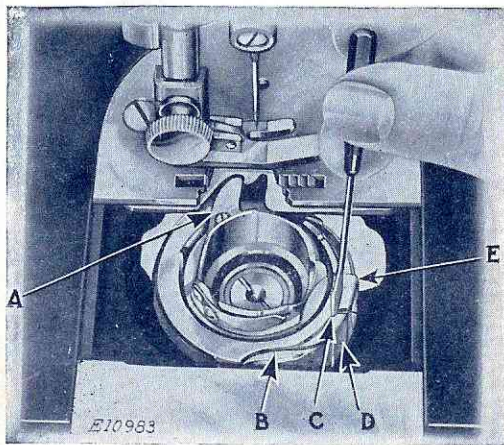

FIG. 30. BOBBIN CASE IN POSITION
(SEE FIG. 30)
The bobbin case may be easily removed from the machine without taking off the throat plate, although for the purpose of illustration the throat plate and feed dog are shown broken away in Fig. 30.
Remove the bobbin from the bobbin case. Turn the balance wheel over toward you until the end of the hook ring (E) is toward the front of the machine, as shown in Fig. 30. Insert the blade of the small tension screwdriver No. 120378, which is furnished with the machine, into the slot (C) between the ring and the edge of the spring, as shown in Fig. 30. With a downward pressure, turn the screwdriver one-half turn to the right so that the screwdriver will drop into the slot and unlock the spring. With the right hand, hold the balance wheel to prevent its turning, and, with the left, place the screwdriver against the edge of the slot in the ring and push it around in a direction opposite to the hook rotation until the circular cut-out (B) is opposite the spring (D). The ring and bobbin case may then be lifted out.
in the position plate under the feed dog as shown in Fig. 30. Turn the bobbin case back and forth slightly to make sure that it is properly seated, then place the hook ring (E) in position with the cut-out (B) opposite the spring (D). Press the ring into place and turn it in the direction of hook rotation until the spring locks it in position. Then replace the bobbin.